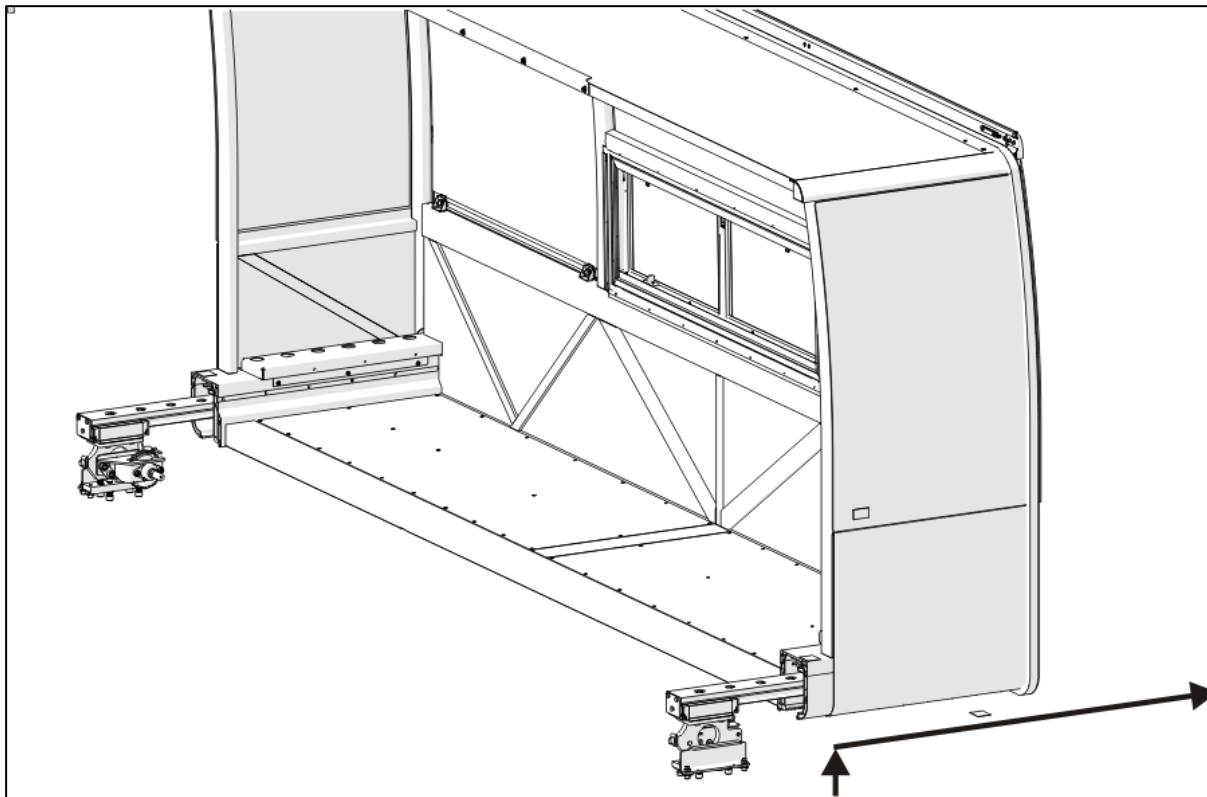

FIGURE 10: LIFTING AND PULLING THE ROOM OUT
18. Slowly pull the room straight out while keeping level.(Figure 10)